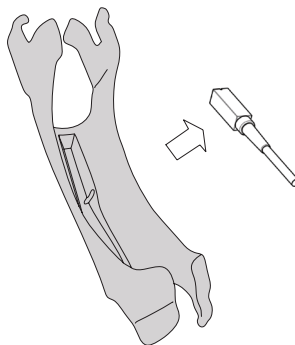

Figure 12 How to release Magnetic Position Sensor from the attachment
- (2) Release the magnetic position sensor from the magnetic position sensor attachment as shown in Figure 12.